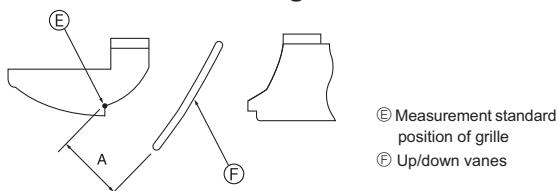

Fig. 5-10
- ③ To adjust the desired airflow direction, slowly move the up/down vanes within the specified range. (Fig. 5-10)